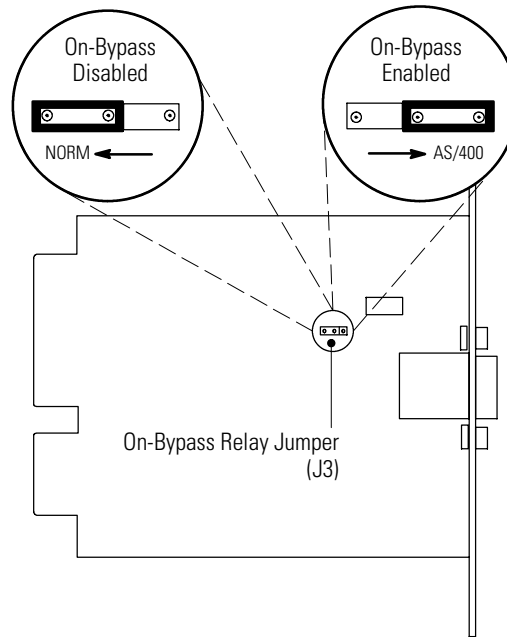

Figure 34. On-Bypass Relay Jumper
2. Move the J3 jumper to the AS/400 position to enable the On-Bypass relay as shown in Figure 34.